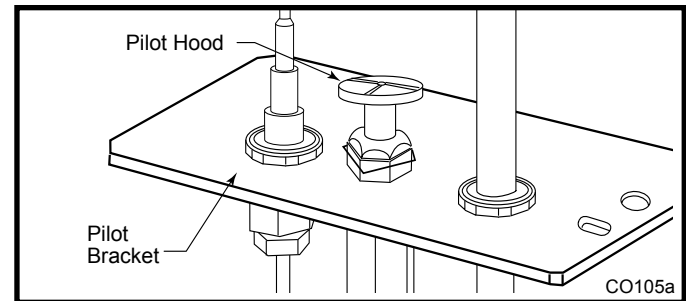

Fig. 79 Remove pilot hood.
3. Remove pilot hood by lifting up. (Fig. 79) Do not remove the snap ring to remove the pilot hood. **NOTE:** It is not necessary to remove the pilot tube for conversion.